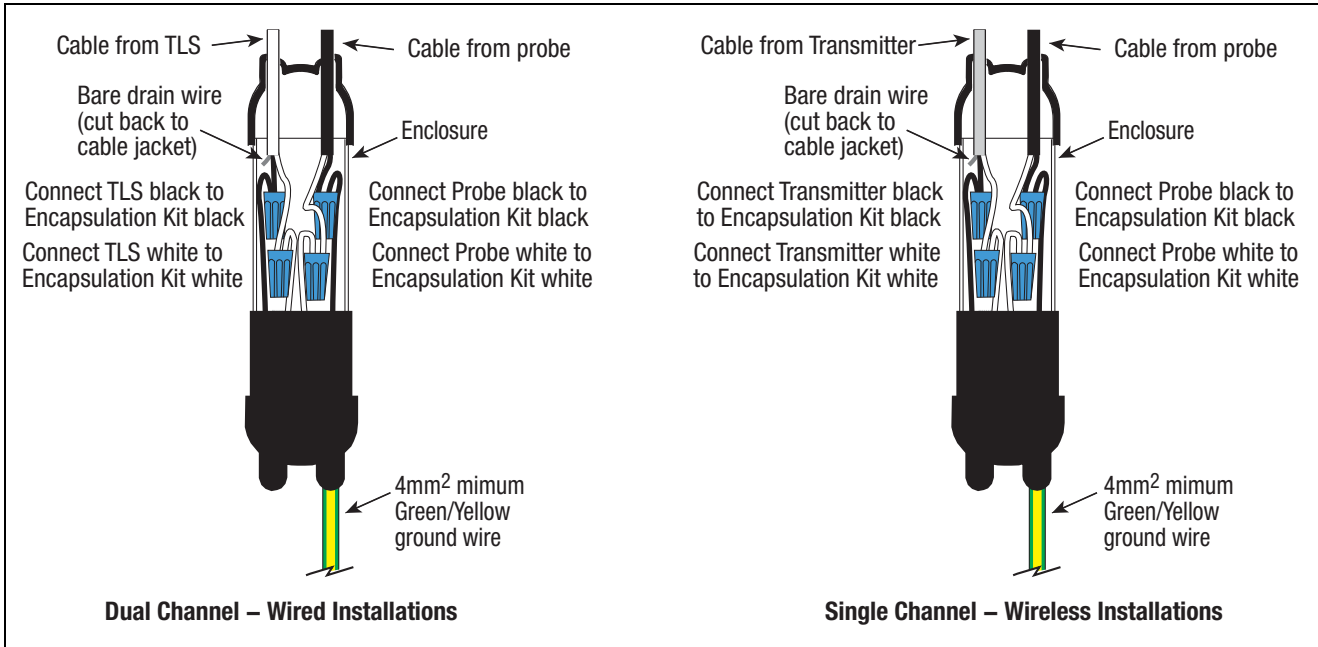

Figure 7. Splice Connections
2. Make the connections to the four black and white wires in the Encapsulation Kit using wire nuts as shown in Figure 7. Depending on the installation, cut off the TLS console or Transmitter cable's bare shield wire at the cable jacket.